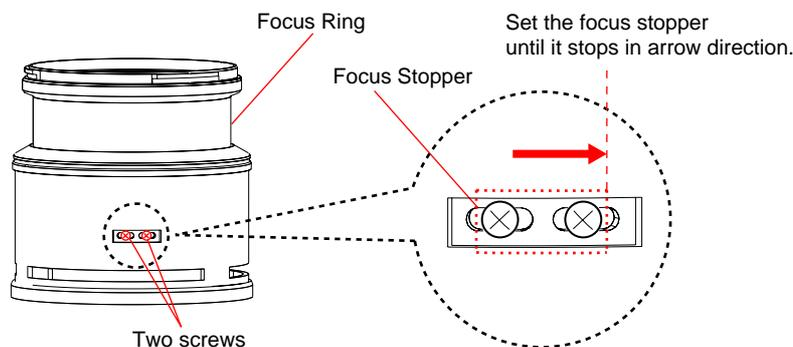

Fig.4-4-6
- 3) Loosen the two screws fixing the focus stopper, and turn the focus ring so that the chart image is the sharpest. (Refer to Fig.4-4-6.)
- 4) Set the focus stopper until it stops in arrow direction while holding the focus ring, and tighten the two screws. (Refer to Fig.4-4-6.)